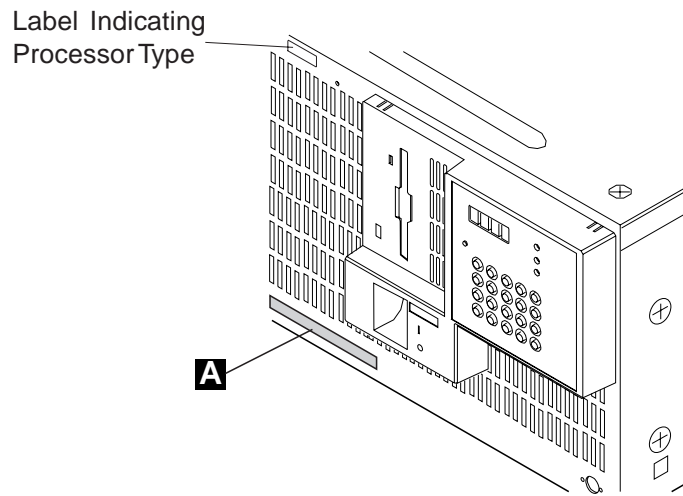
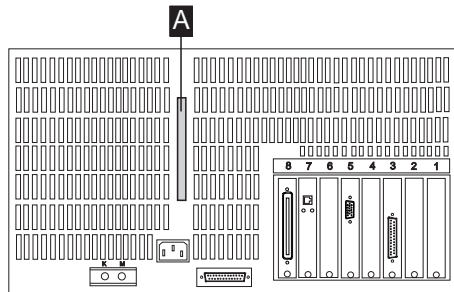

Figure 1-20. Installing Label on the Front Side of the Service Processor
Figure 1-21. Installing Label on the Rear Side of the Service Processor
2. ____ Using label (PN 80G0680), **identify** your Service Processor-A or Service Processor-B by sticking the appropriate label **A** on the front and rear side of the unit (refer to Figure 1-20 and Figure 1-21).